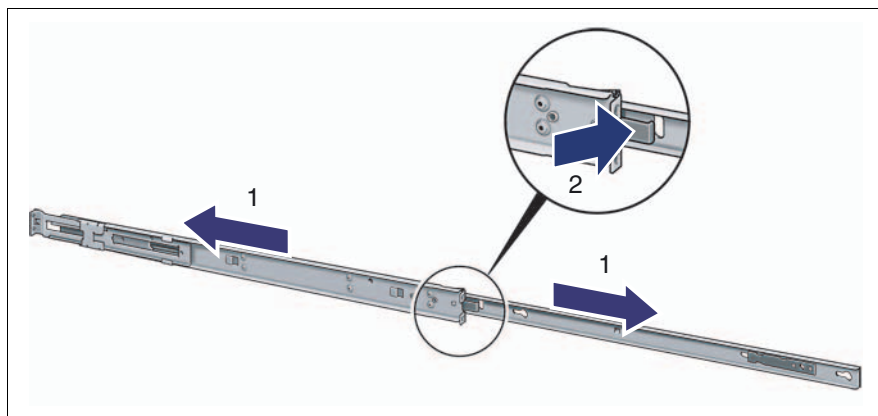

Figure 4: Remove the outer telescopic rail
- Remove the outer telescopic rail as described in page 40 \(figure 4\).